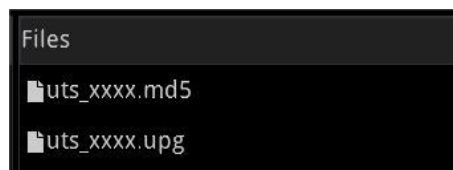

Figure 2-2 Upgrade Package
1. Decompress the upgrade package to the root directory of a USB flash drive. The package contains two files, "xxx.md5" and "xxx.upg," as shown in Figure 2-2.